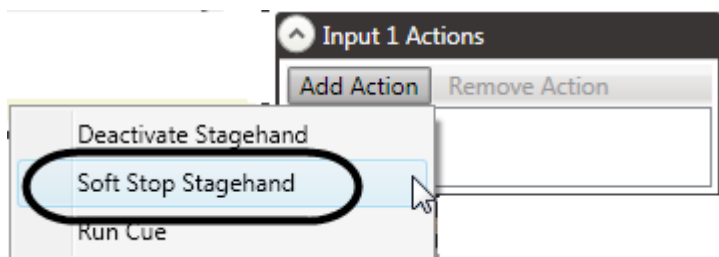

Figure 108
3. Select **Soft Stop Stagehand** as the action type (Figure 108)